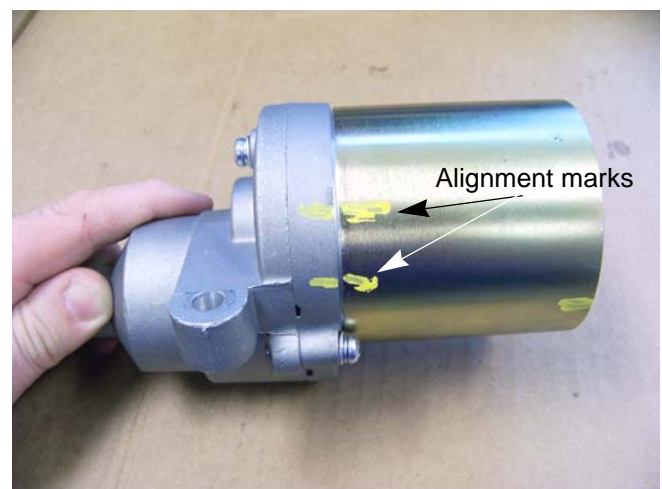

Figure 6.26
10. Rotate the stator housing until the alignment marks (made before disassembly) line up. See Figure 6.26.